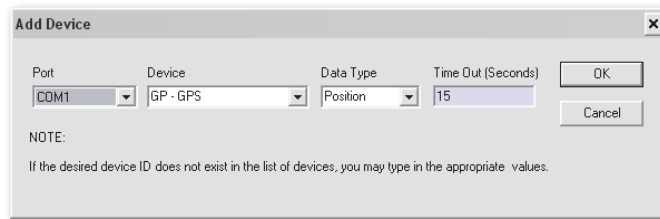

Figure 4.7 - Add Device Dialog Box
2. Click **Add**. The Add Device dialog box (**Figure 4.7**) will display.